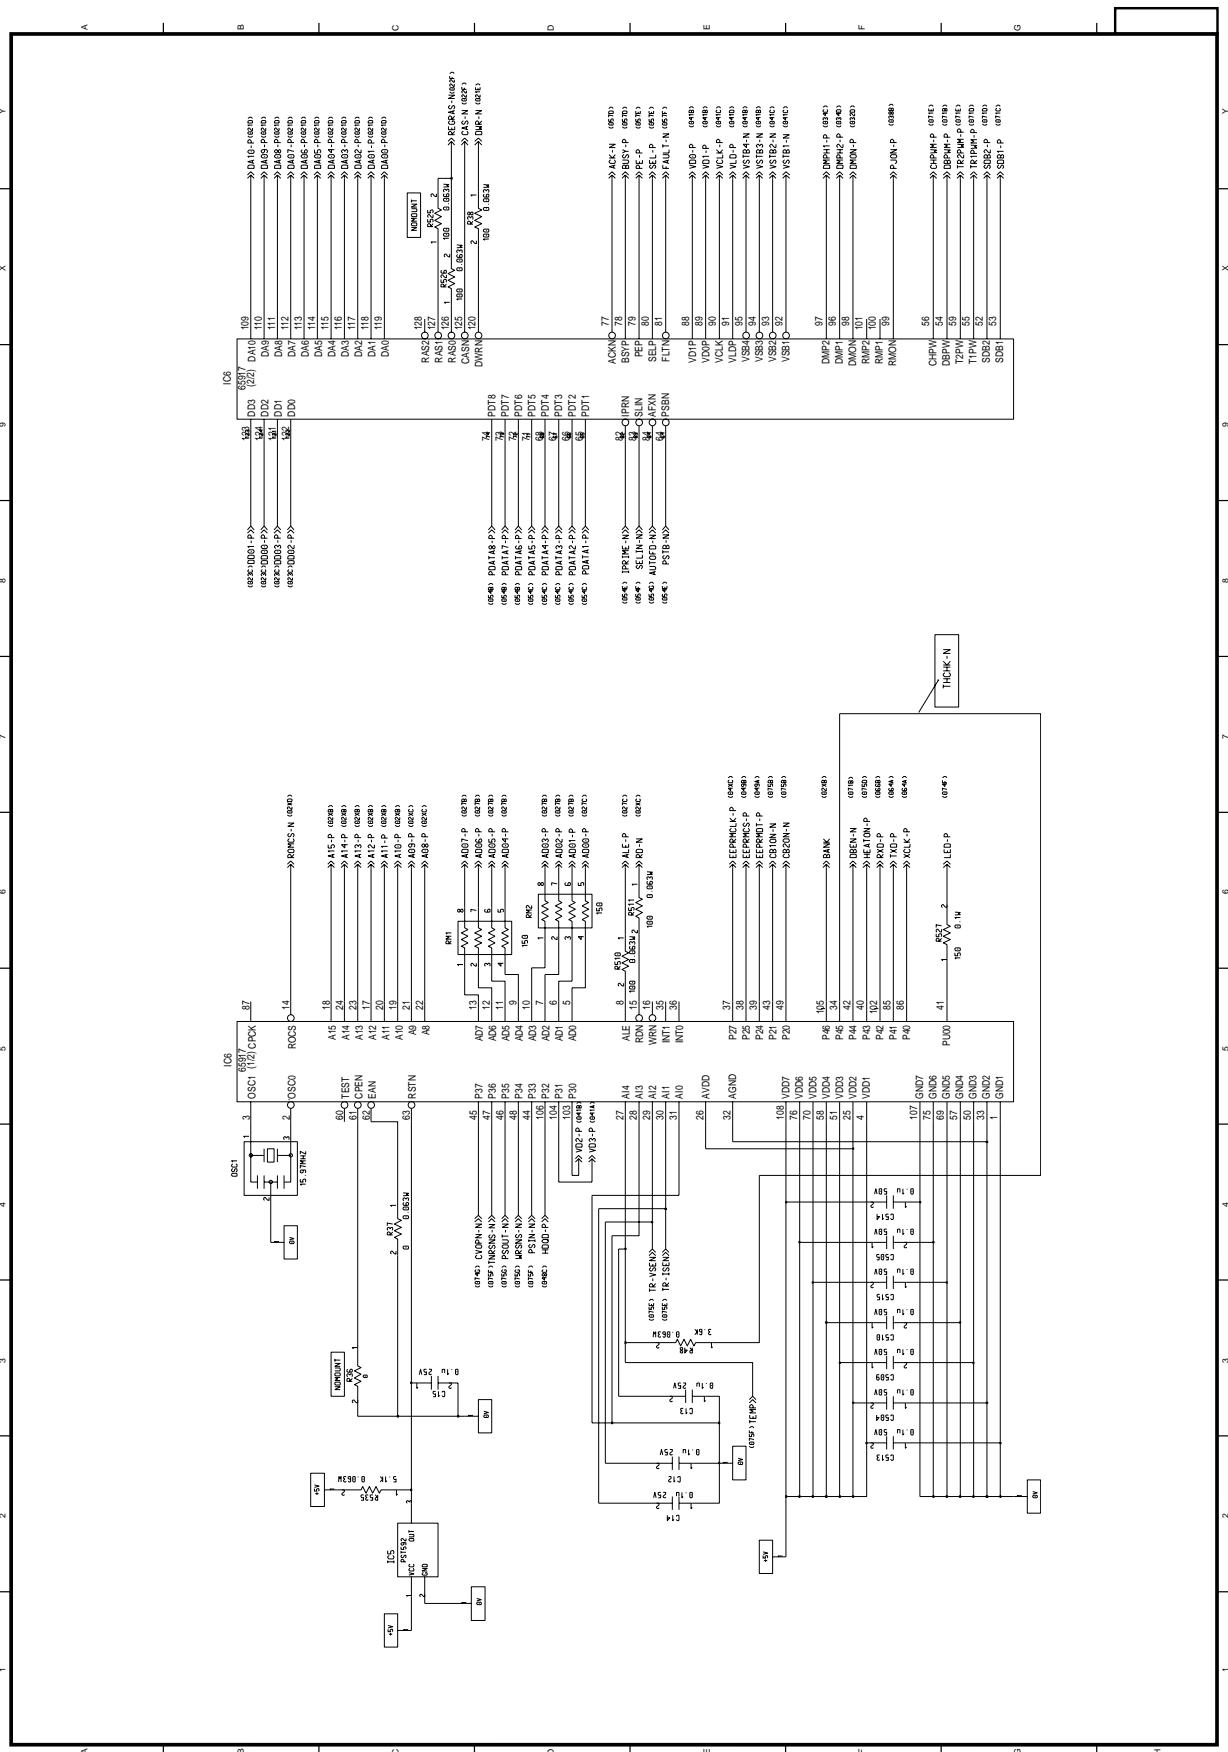

Figure 5-1 Main Control PCB (HBY-1/ 7) Circuit Diagram Rev.1
- Figure 5-1 ~ 5-7 Main Control PCB (HBY-) Circuit Diagram (Rev. 1)